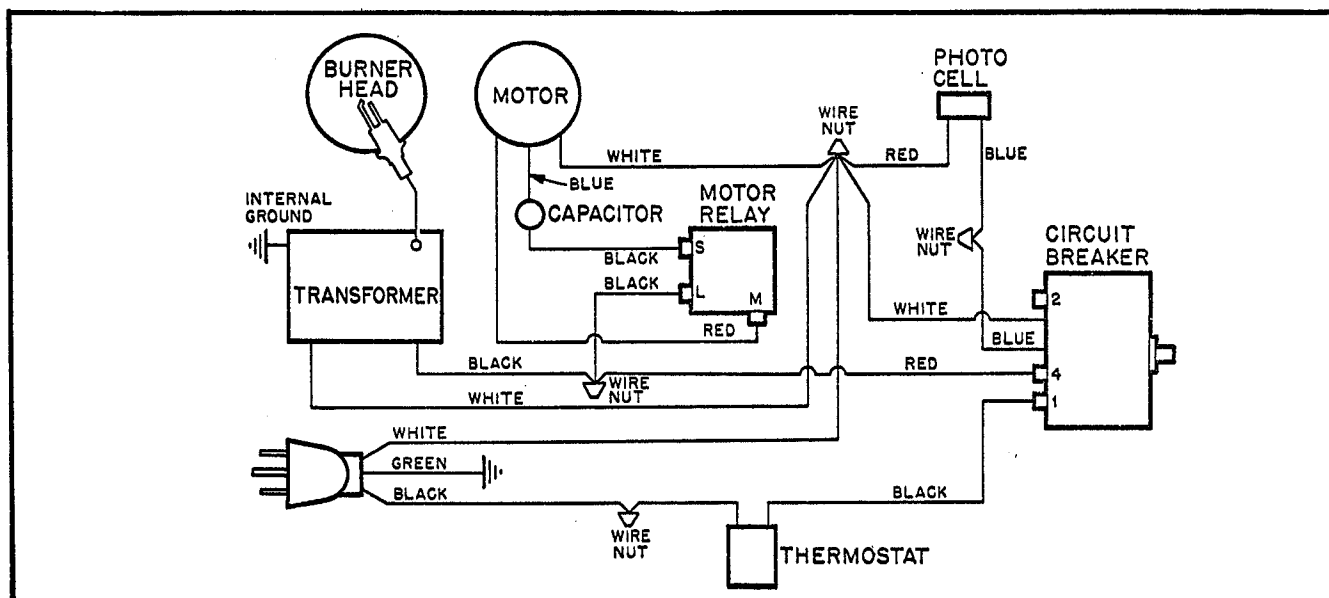

Figure 9. Wiring Diagram
2. Take the thermostat out of the circuit by using a jumper wire across thermostat connections. See figure 9. Press in on the circuit breaker reset button.
5. Reinstall the attaching screws, and make wiring connections in accordance with Figure 9.
The heaters have 1/4 horsepower motors and separate starting relays. (See the Wiring Diagrams, Figure 9).
c. If the motor starts, install a new relay, and reconnect the wiring according to the Wiring Diagram, Figure 9.
(1) Internal fault in the motor, such as burned-out stator.
(2) Failure of the starting relay.